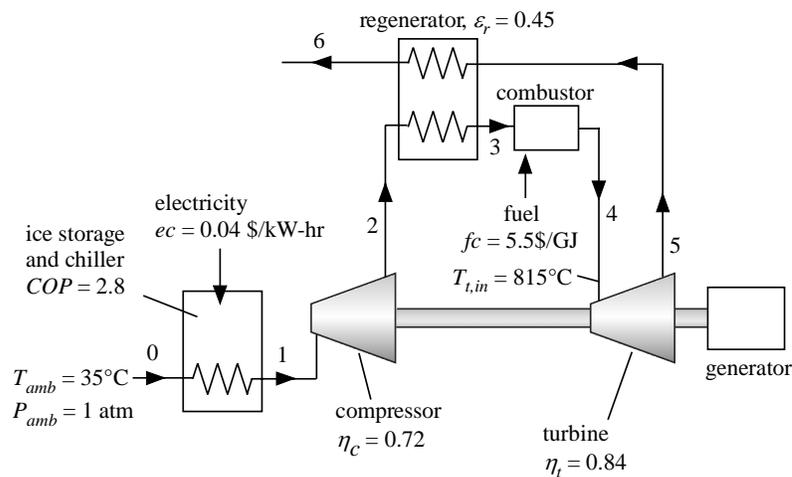

Figure 8.B-5: Gas turbine power system with inlet air cooled by ice storage system.
8.B-5 Many electric utilities rely on gas turbine generators to help supply their peak electrical demand during the summer months. Gas turbines operate less efficiently than the Rankine power cycle and this is one reason that electrical rates are higher during the summer than they are during the winter in many locations. If a utility is unable to supply their peak demand, they must purchase electricity from other utilities at a relatively high price. One way to ensure that the peak demand is met is to install extra gas turbine cycle generators. Another way, which may be more economical, is to cool the compressor inlet air using an ice storage unit, as shown in Figure 8.B-5. Cooling the inlet increases both the capacity and efficiency of the gas turbine cycle. For the specific case under consideration, the ice is produced by an electrically-driven vapor compression refrigeration cycle with $COP = 2.8$. The vapor compression cycle operates during off-peak times and consumes electricity that has a utility cost of $ec = 0.04$ \$/kW-hr. The effective cost of the fuel (including a consideration for combustion efficiency) that is used to run the gas turbine is $fc = 5.5$ \$/GJ. The effective cost of the fuel (including a consideration for combustion efficiency) that is used to run the gas turbine is $fc = 5.5$ \$/GJ.